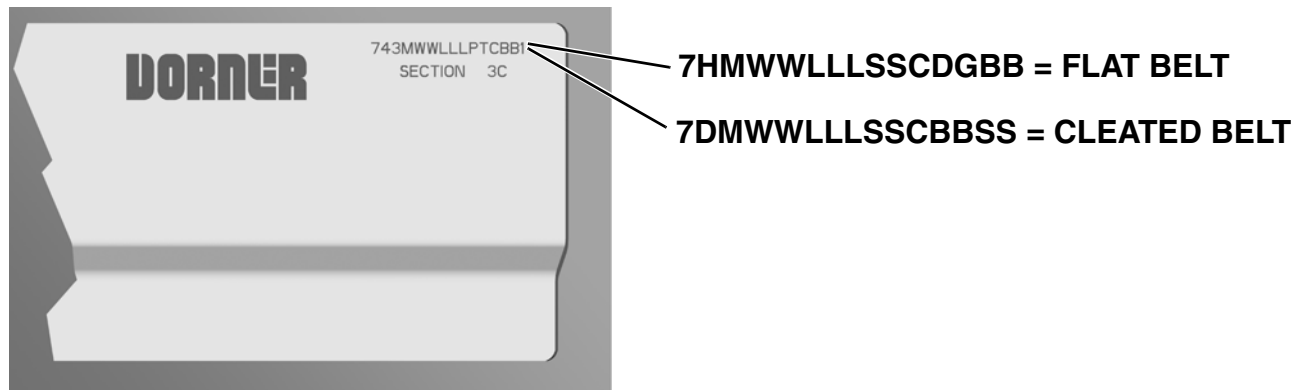

Figure 83
Refer to the model number on the conveyor frame (**Figure 83**). From the model number, determine conveyor width (WW), length (LLL), drive stand location (S), idler stand location (S), cleaning options (C), drive/pulley type (D), profile (G) and belt material (BB).
Refer to the model number on the conveyor frame (**Figure 83**). From the model number, determine conveyor width (WW), length (LLL), drive stand location (S), idler stand location (S), cleaning options (C), cleated belt material (BB) and cleat spacing (SS).